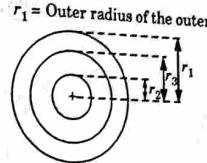

Fig. 5.24.1.
- Now consider a compound thick cylindrical shell made up of two tubes as shown in Fig. 5.24.1.